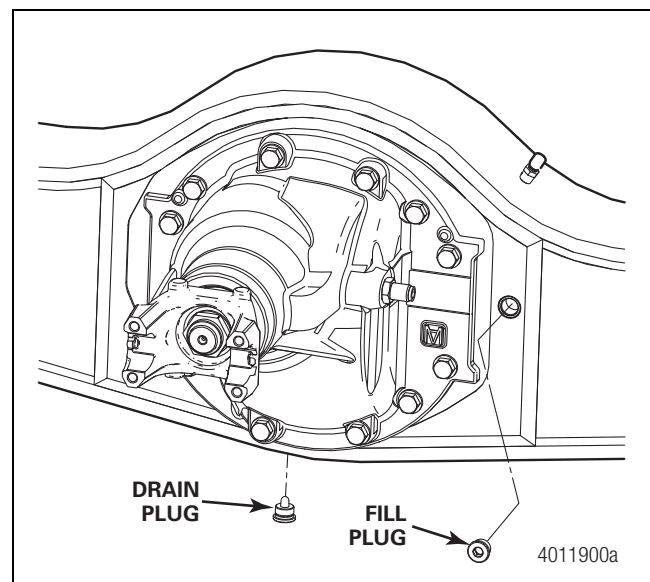

Figure 7.5
3. Remove the drain plug from the bottom of the axle housing and/or hub. To completely drain the oil from the wheel ends, the hubs must be orientated with the drain/fill plug to the 6 o'clock position. Drain and discard the oil correctly. Figure 7.5.
5. Remove the fill plug from the axle. Figure 7.5.